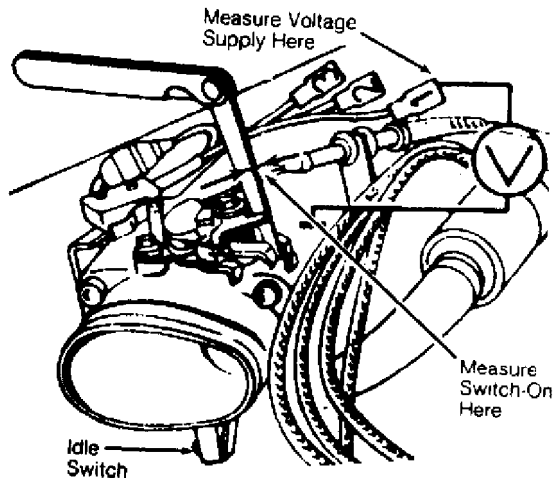

Fig. 8: Checking Idle Switch Adjustment
3) Check switch-on point of idle switch, using feeler gauge between throttle lever and idle stop. Switch-on point gap should be .006-.002" (.15-.05 mm) before idle stop. See Fig. 8. If switch-on point is incorrect, loosen and adjust idle switch position. Idle switch is located on underside of throttle valve housing, opposite idle stop.